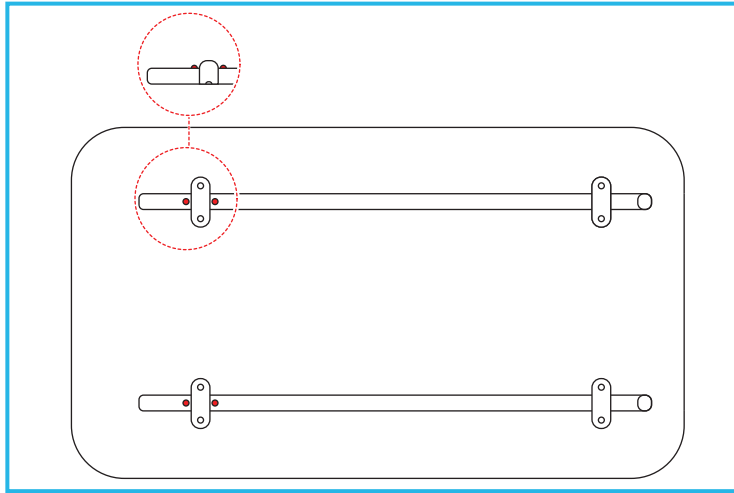

Figure 3: Assembling the Table-top
5. Refer to Figure 3. Push in the first telescopic tube button clip, then slide the tube through the bracket until the button clip clicks back into place.